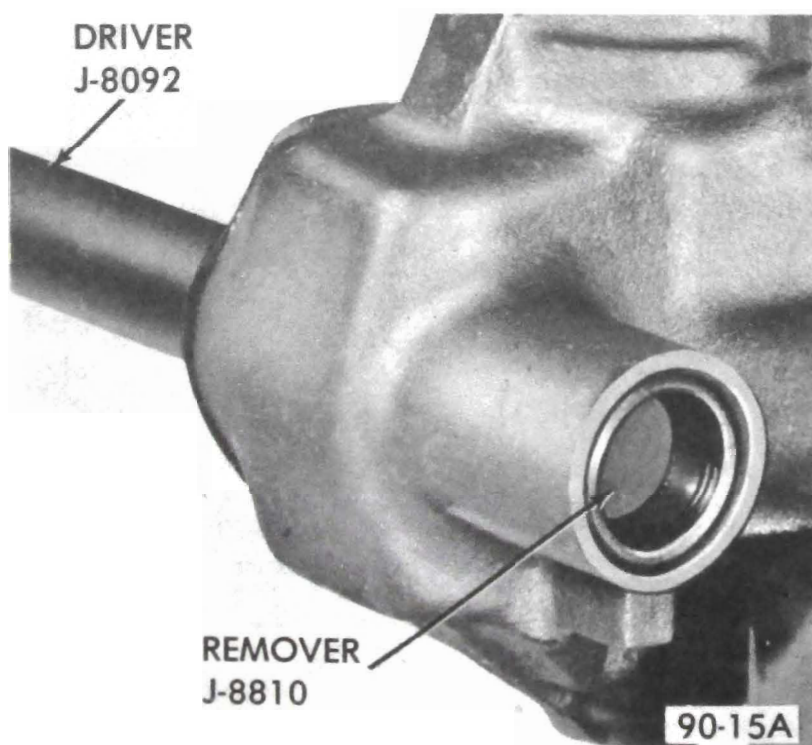

Figure 90-9 Installing Pitman Shaft Bushing
5. Inspect teeth of ball nut and pitman shaft for pitting or scoring which would require replacement of ball nut or pitman shaft. Inspect pitman shaft bushing in housing for excessive wear or scoring. If necessary, remove pitman shaft bushing using Remover J-8810 and driver handle J-8092. Install new bushing using Installer J-8811 with driver handle J-8092. See Figure 90-9.